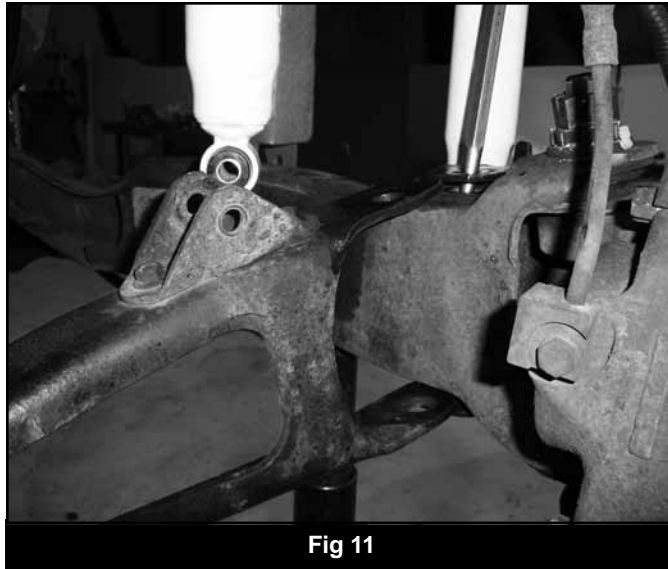

Fig 11
25. Form the brake line at the caliper (bend towards frame rail) to allow for adequate slack in the line at full droop. Cycle the steering to ensure that there is adequate slack in the line. If there is not enough slack, replacement longer length lines must be installed. If lines are installed the brake system must be bled prior to vehicle operation. (Fig 11)